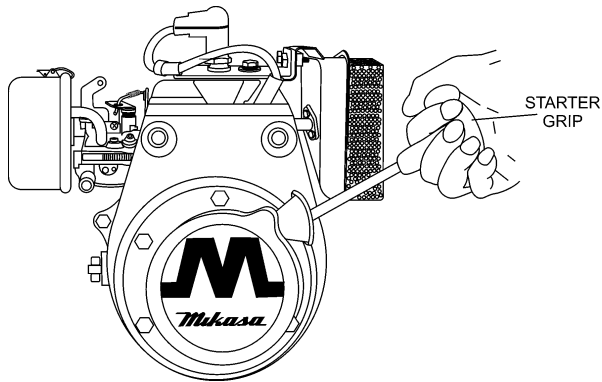

Figure 10. Recoil Starter
5. Grip the recoil starter (Figure 10) handle and pull it until you feel a slight resistance. Then pull sharply and quickly. Return the recoil starter handle to the starter position before releasing.